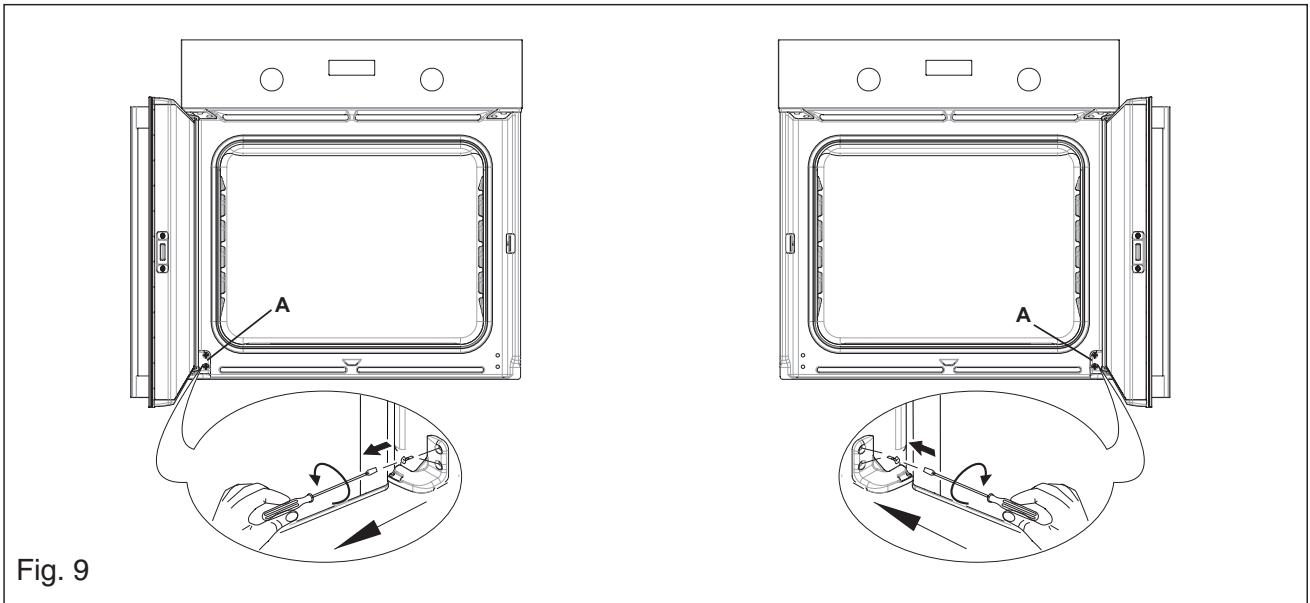

Fig. 9
- 1) Open the oven door and undo the two screws in the block **A** (see figure 9).